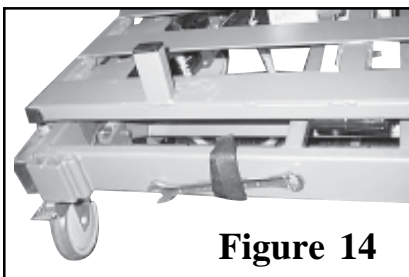

Figure 14
8. Release the black woven safety strap located at the head end of the bed and remove the Tool (see figure 14).
10. Store the Tool in Velcro holder with black safety strap as in figure 14).